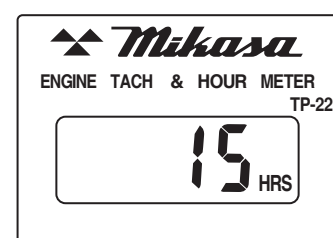

Fig. 9
- 4 When the engine is stopped, the hour tachometer is always showing "Cumulative time".(Fig.9)